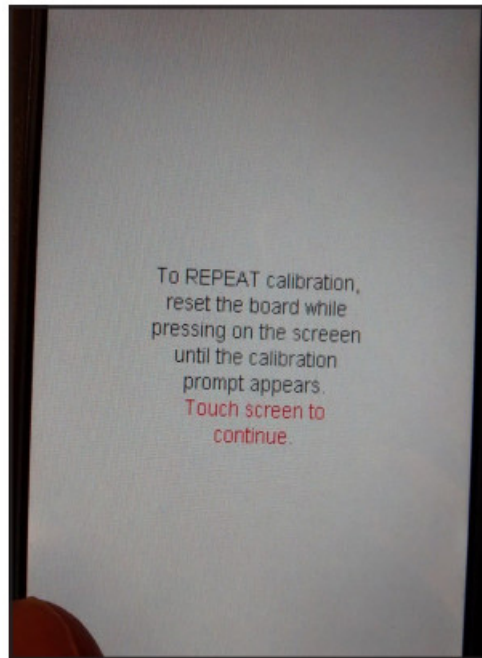

Figure 11 Touch anywhere on the Screen
3. After touching and releasing all the prompted circles, the following screen appears. See Figure 11.